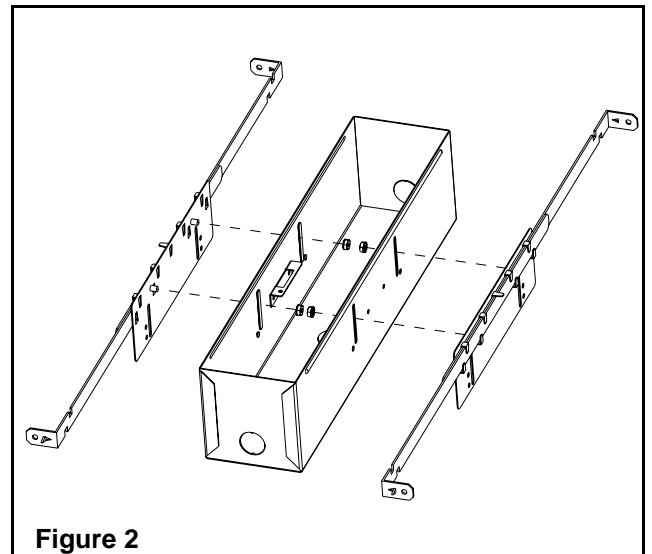

Figure 2
2. Assemble the recessed mount brackets to the back box (see figure 2). Install the bar hangers in the adjustment brackets. Mount the back box so that it is flush with the ceiling surface.